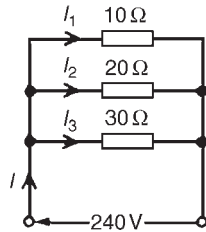

Figure 5.22
- (b) The parallel circuit is shown in Fig. 5.22. The equivalent resistance R_T of $10\ \Omega$, $20\ \Omega$ and $30\ \Omega$ resistance's connected in parallel is